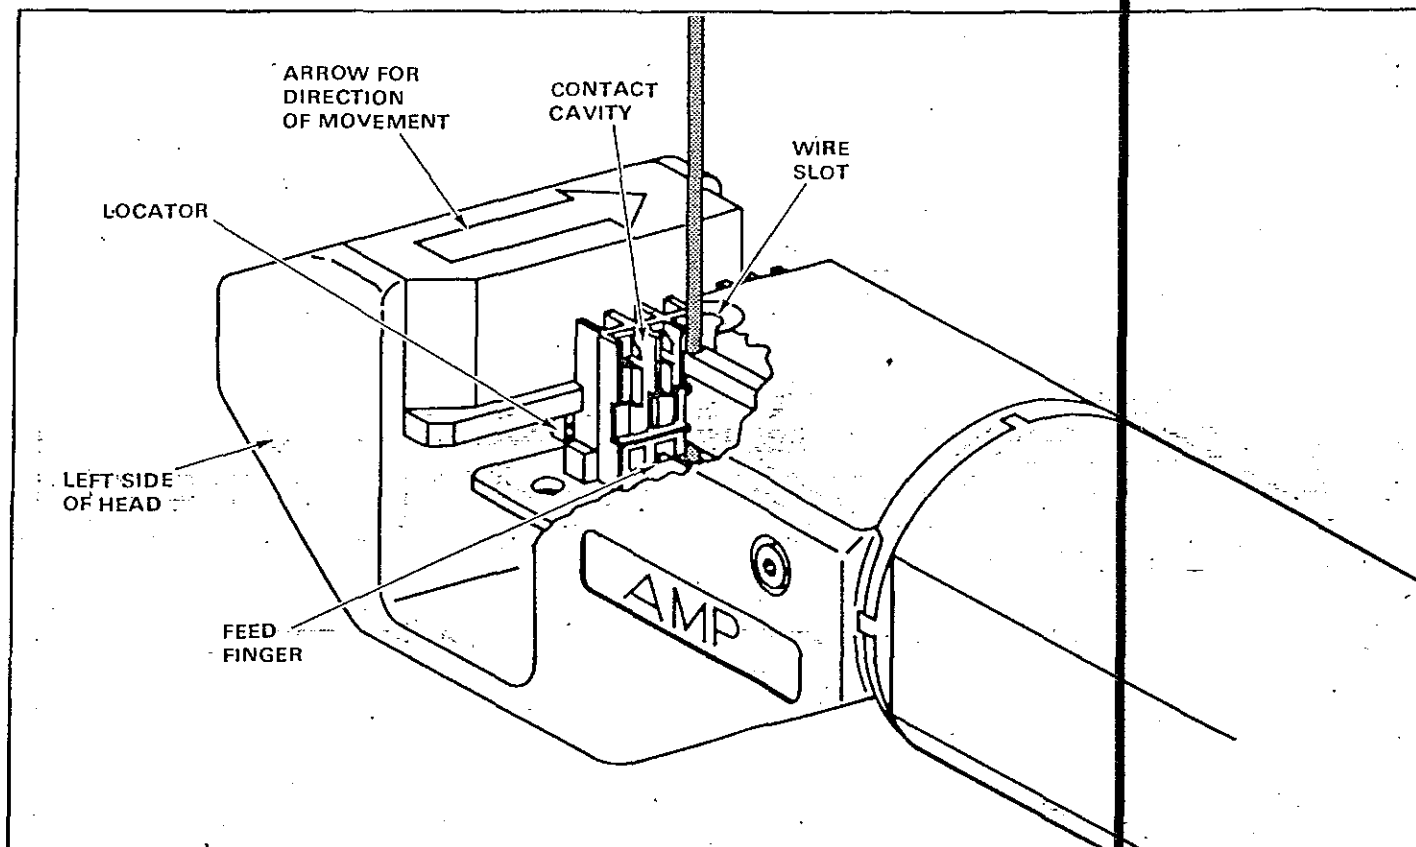

Fig. 3
1. Insert the connector into the left side of the head, as indicated in Figure 3.